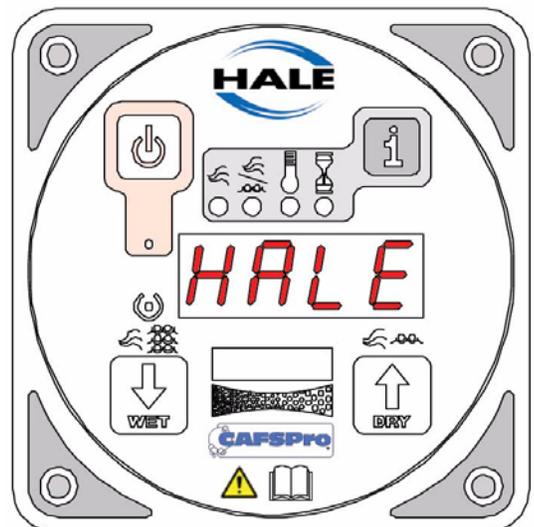

Figure 4-3: Hale CAFSPRO Control Unit
(See Figure 4-3: 'Hale CAFSPRO Control Unit.')
- **AIR TO FOAM SOLUTION RATIO** - The air-to-foam ratio shows the consistency of the compressed air finished-foam that is being produced. For WET foam, a range of 0.5 SCFM to 1 GPM is available. For the DRIEST foam, up to 11 SCFM is available for every GPM (LPM). This is adjustable using the WET or DRY ARROW buttons. (See Figure 4-3: 'Hale CAFSPRO Control Unit' on page 33.)